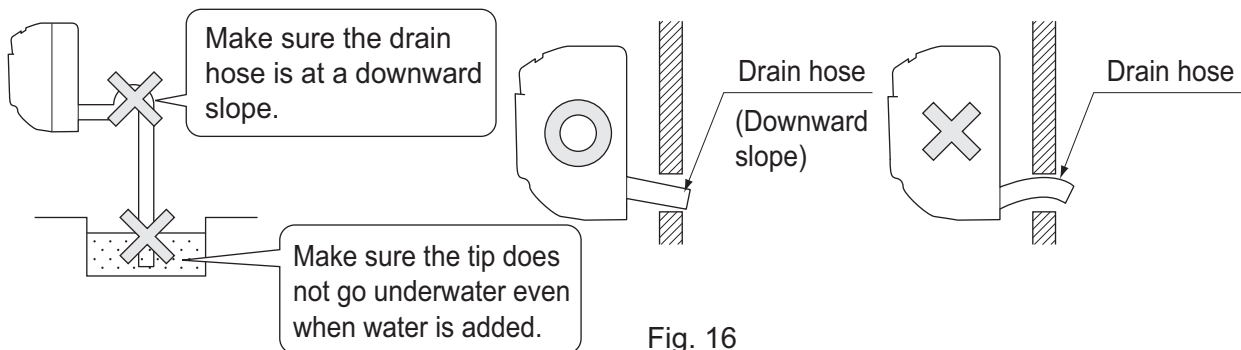

Fig. 16
### (1) Install the drain piping. (Refer to Fig. 16)
- Watch out for the points in the Fig. 16 when performing drain work.